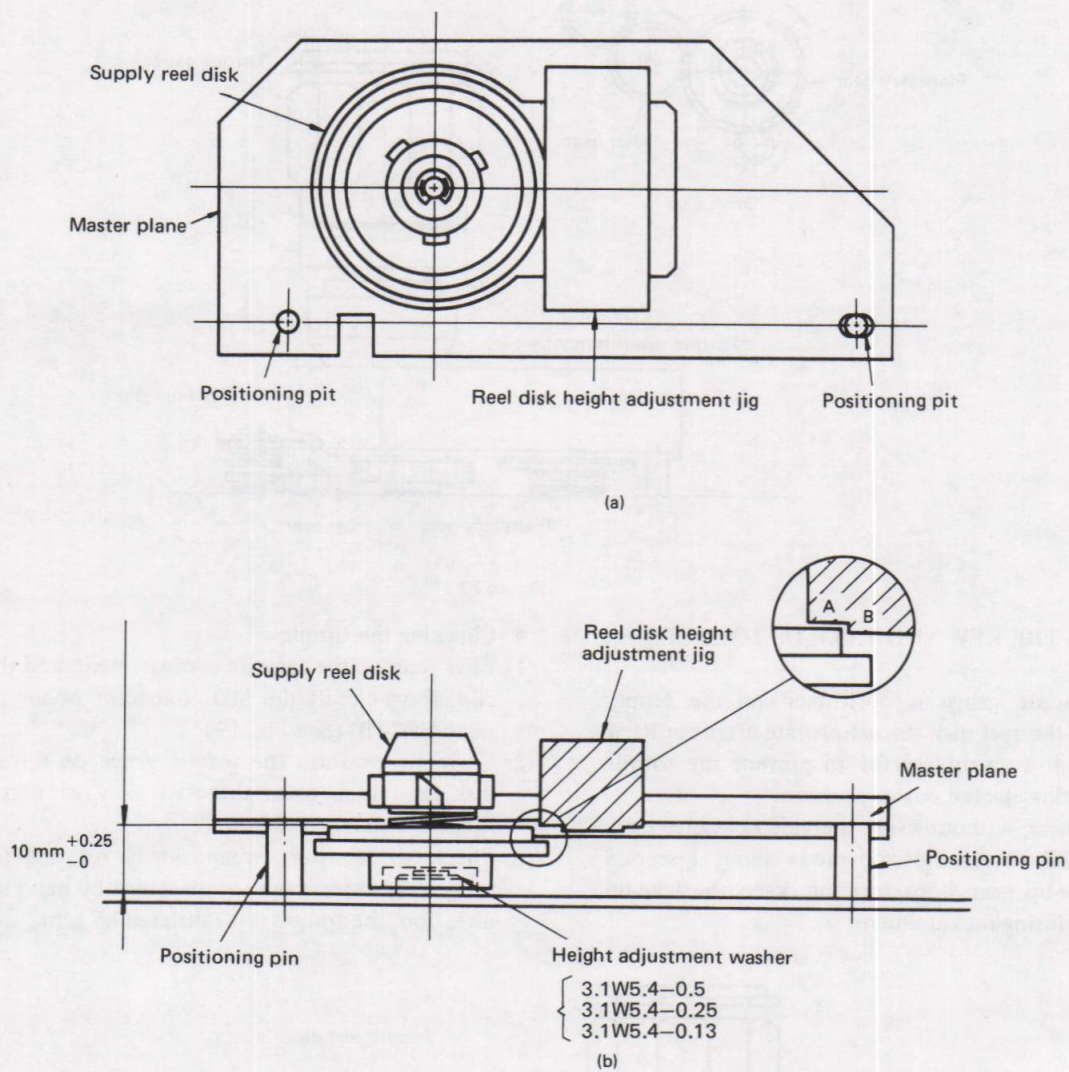

Figure 21
as shown in Fig. 21-a.
- ② Using the reel disk height adjustment jig, check to see if the upper surface of the reel disk is below portion A and above portion B of the reel disk height adjustment jig positioned, as shown in Fig. 21-b. If not, properly adjust the height of the reel disk with the height adjustment washer so that the thrust gap between the washer and the reel table is less than 0.1 mm through 0.5 mm.